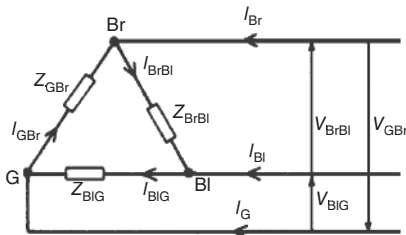
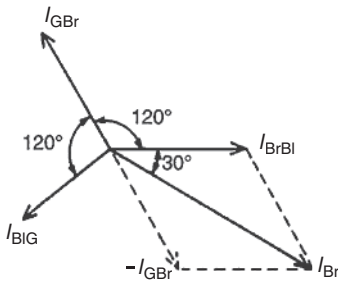

Figure 23.10
Figure 23.11
- (i) A **delta (or mesh) connected load** is shown in Fig. 23.10, where the end of one load is connected to the start of the next load.
- (ii) From Fig. 23.10, it can be seen that the line voltages V_{BrBl} , V_{BIG} and V_{GBr} are the respective phase voltages, i.e. for a delta connection:
- (iii) Using Kirchhoff's current law in Fig. 23.10, $I_{Br} = I_{BrBl} - I_{GBr} = I_{BrBl} + (-I_{GBr})$. From the phasor diagram shown in Fig. 23.11, by trigonometry or by measurement, $I_{Br} = \sqrt{3}I_{BrBl}$, i.e. for a delta connection: